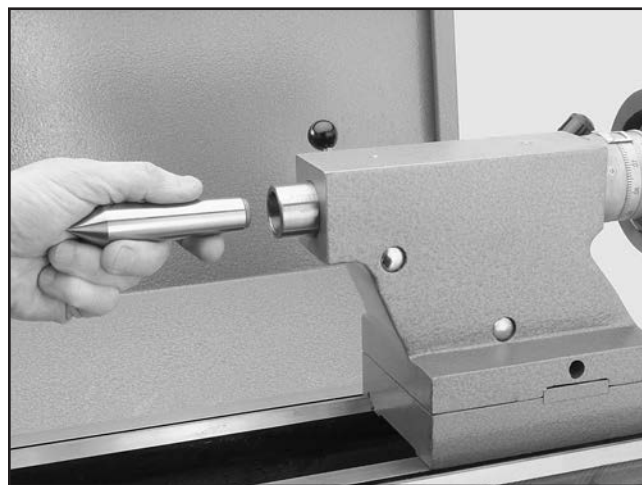

Figure 33. Inserting a tapered dead center into the tailstock quill.
4. Insert the tapered device into the quill until the taper is firmly seated. The matching tapers hold the device into the quill (see **Figure 33** for an example).